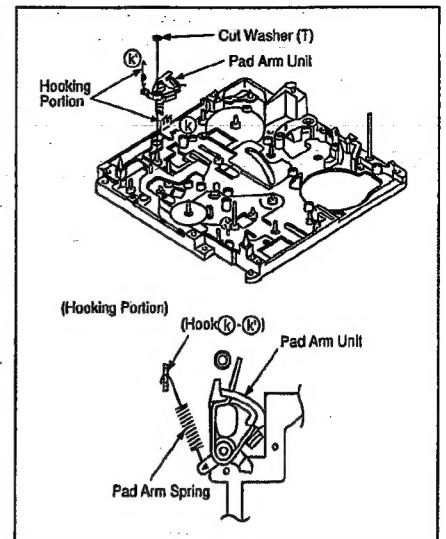

Fig. M28
- Fig. M28 Turn the Mode Gear to fully counter-clockwise.